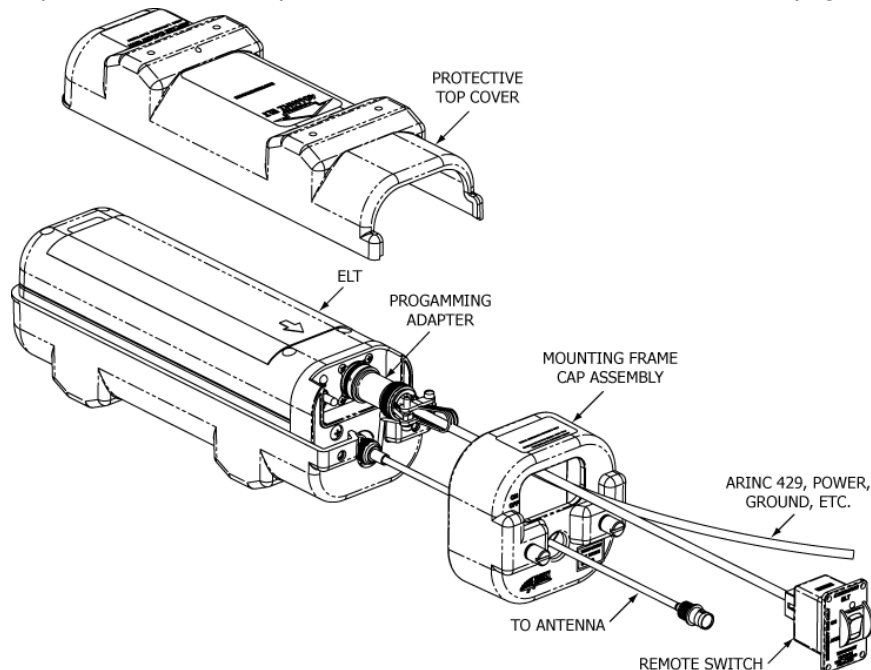

Figure 30 Programming Adapter Installation
- 1) See Figure 30 Programming Adapter Installation.